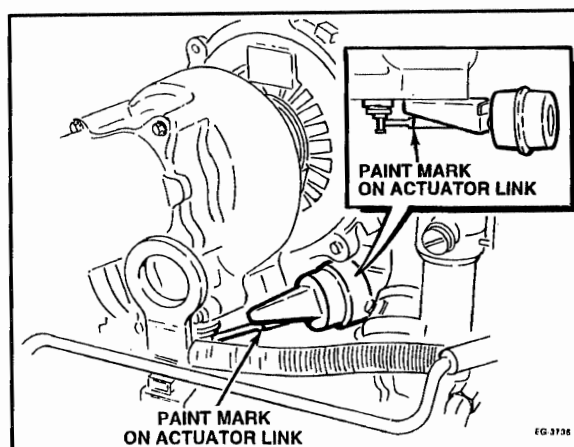

Figure 2.3-17. – Paint Mark Location on Actuator Link
2. Mark actuator (link) shaft with paint pen. **Figure 2.3-17.**